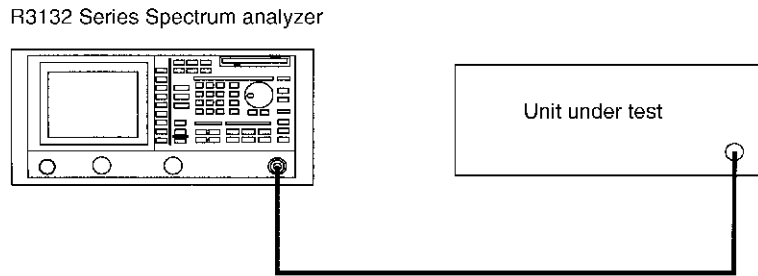

Figure 2-51 Setup for Measuring the Occupied Bandwidth
1. Connect the unit under test as shown in Figure 2-51.